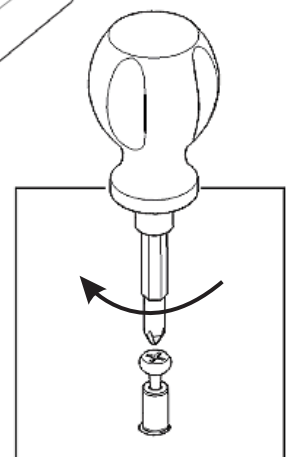

Figure 1
Put Cam Lock Screws into the pre-drilled holes of Side Panels (C), (D), (E), (F) and Bottoms (H), (P) and tighten. (see Figure 1)